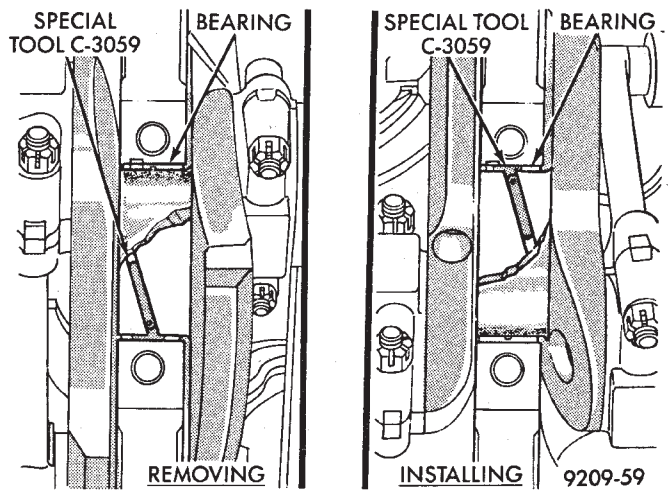

Fig. 3 Removing and Installing Upper Main Bearing With Special Tool C-3059
- (1) Remove oil pan and identify bearing caps before removal.
- (2) Remove bearing caps one at a time. Remove upper half of bearing by inserting Special Main Bearing Tool C-3059. (Fig. 3) into the oil hole of crankshaft.
- (3) Slowly rotate crankshaft clockwise, forcing out upper half of bearing shell.
- (1) Start bearing in place, and insert Main Bearing Tool C-3059 into oil hole of crankshaft (Fig. 3).
- (2) Slowly rotate crankshaft counter-clockwise sliding the bearing into position. Remove Special Main Bearing Tool C-3059.
- (3) Install each main cap and tighten bolts finger tight.
- (4) Tighten number 1, 3 and 4 main cap bolts to 41 N•m + 1/4 Turn (30 ft. lbs. + 1/4 Turn).
- (5) Rotate the crankshaft until number 6 piston is at TDC.
- (6) To ensure correct thrust bearing alignment the following procedure must be done: